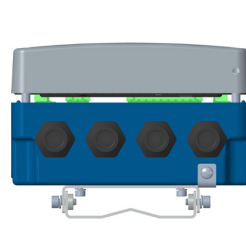

Figure 10: Lift cover from base
5. Insert a wire for earth ground under the grounding bracket (see Figure 10) and screw it down tight.